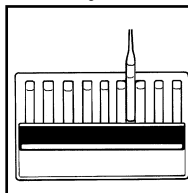

Figure 6
13. Obtain a test result by placing the ampoule between the color standards until the best color match is found (fig 6).